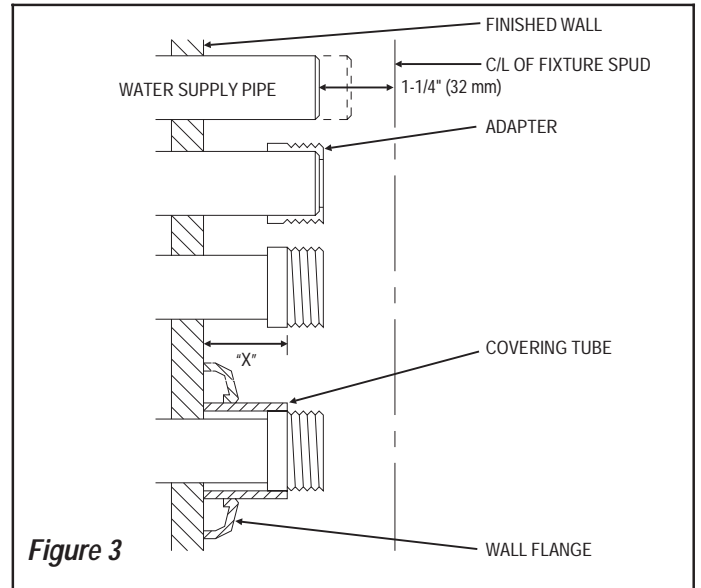

Figure 3
For Sweat Solder applications, see the following instructions & Figure 3:
- Determine length of Covering Tube by measuring distance from finished wall to the first thread of Adapter (dimension “X” in Figure 3). Cut Covering Tube to this length.